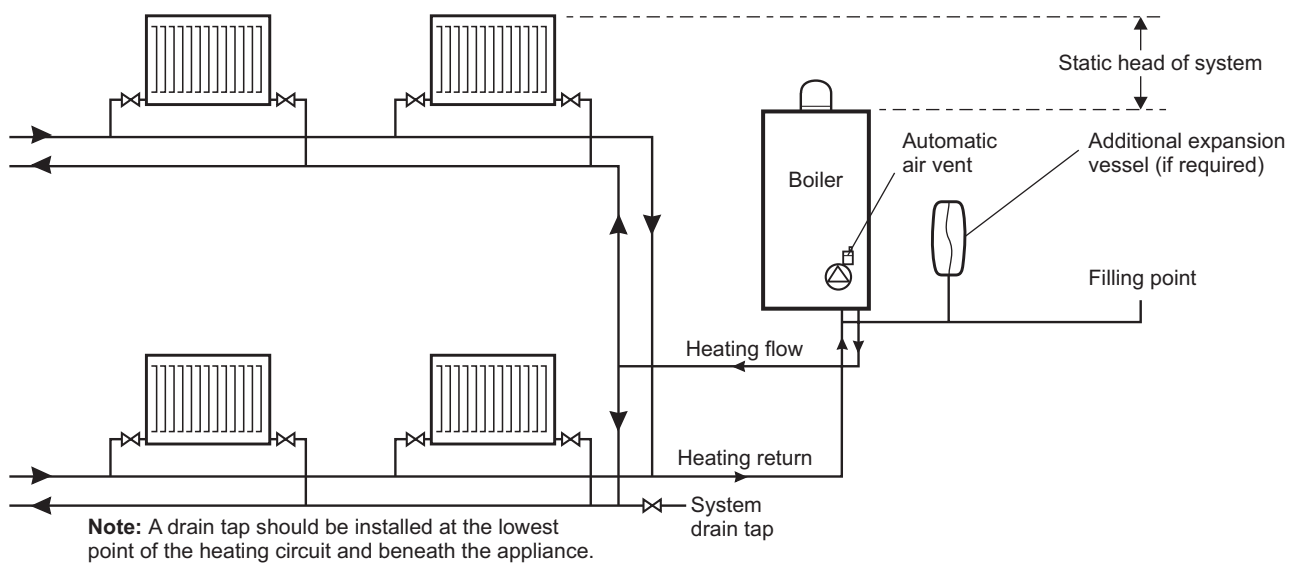

Fig. 4.5
4.6 CENTRAL HEATING SYSTEM - Fig. 4.5
System volume - The expansion vessel incorporated into the boiler is suitable for a sealed heating system with a maximum water content of 80 litres (18 gal). Above 80 litres, consideration should be given to fitting an additional expansion vessel fitted in the position shown in Fig. 4.5. To check correct operation of the expansion vessel(s) the system pressure should not be more than 2.5 bar when the system is at maximum operating temperature (for further guidance refer to BS 7074:1).
The system design pressure (cold) should be set to 1.0 bar. This pressure is equivalent to a static head (see Fig. 4.5) of 10.2 metres of water.